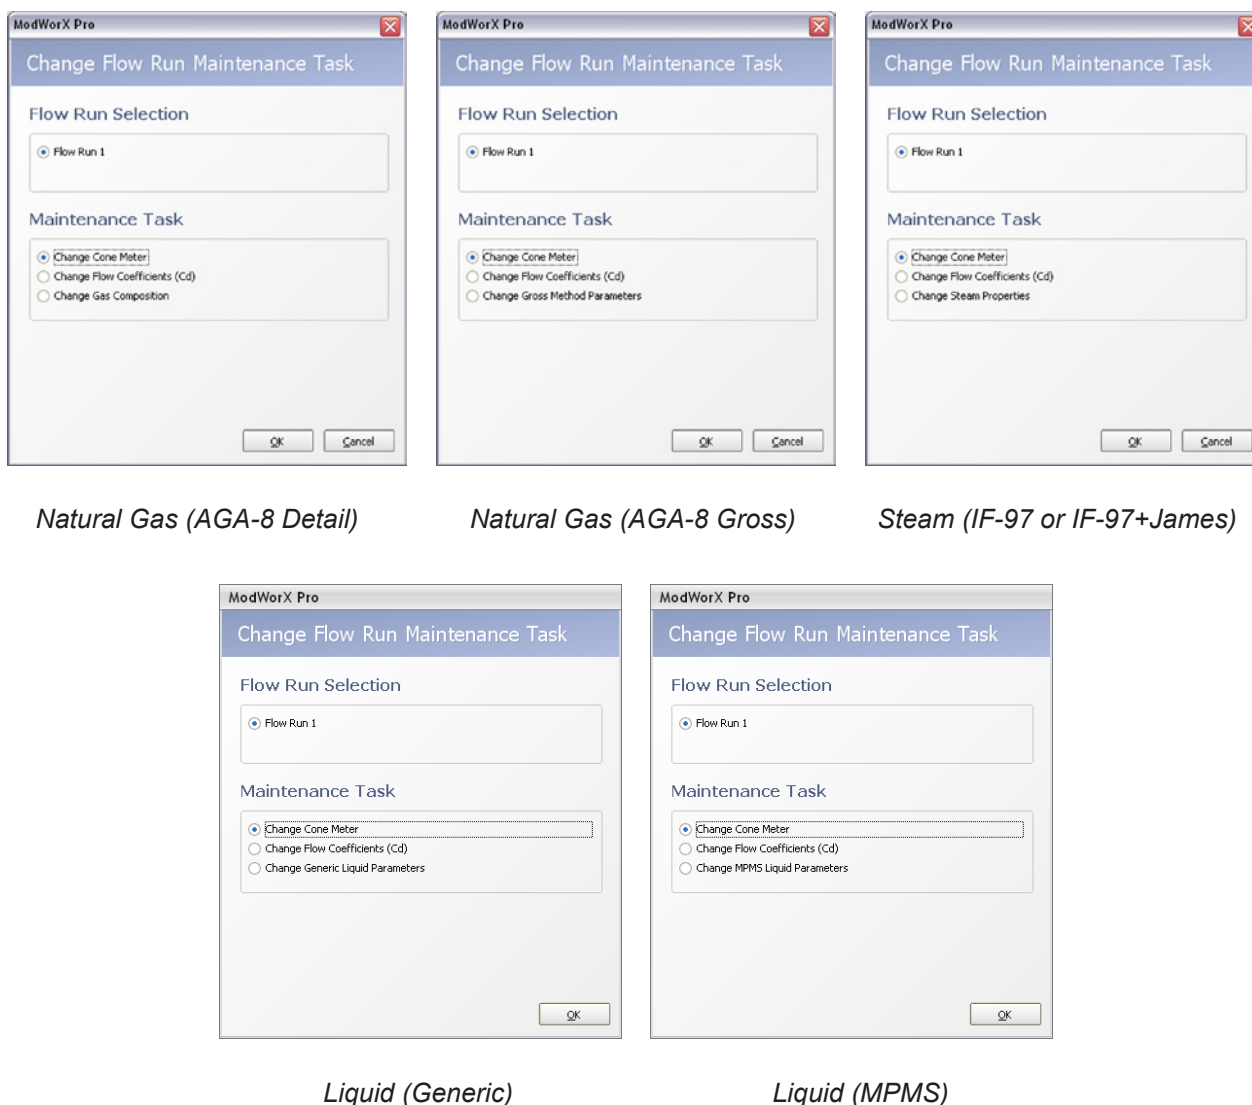

Figure 10.6
1. If Change Flow Coefficients (Cd) is not displayed in the Maintenance Task field at the top of the Maintain Flow Run screen, click on **Change Task**. The Change Flow Run Maintenance Task dialog will appear (Figure 10.6). The selections available on this screen will vary, depending on the fluid property calculation method selected, as shown below.